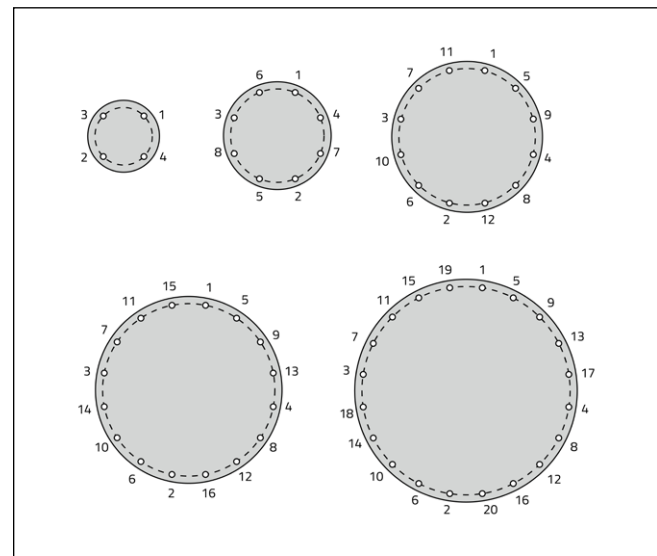

Fig. 45: Tightening sequences
- Using a torque wrench, tighten all bolts following the proper of tightening sequences (Fig. 45). It is important to tighten bolts in several stages according to the specifications for the flange/gasket combination.